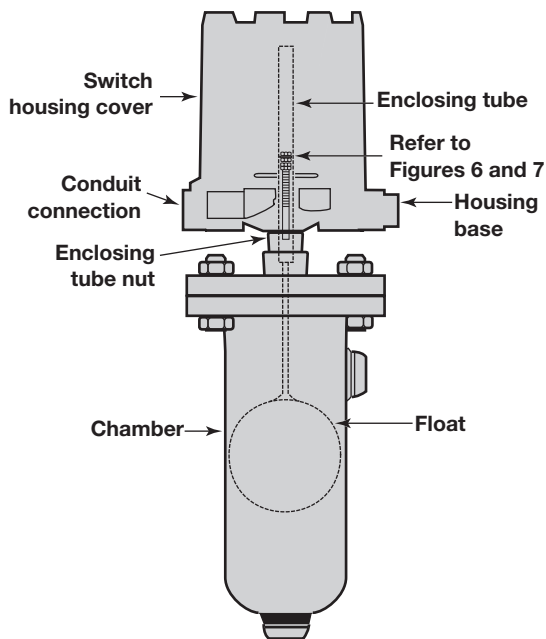

Figure 8
4. Disconnect power supply wires from switch mechanism. Pull wires out of conduit connection opening in housing base. Refer to **Figure 8**.
6. Loosen enclosing tube nut with a $\frac{1}{16}$ " wrench. Unscrew enclosing tube counterclockwise (switch and housing base will rotate also), until it is free. Refer to **Figure 8**.